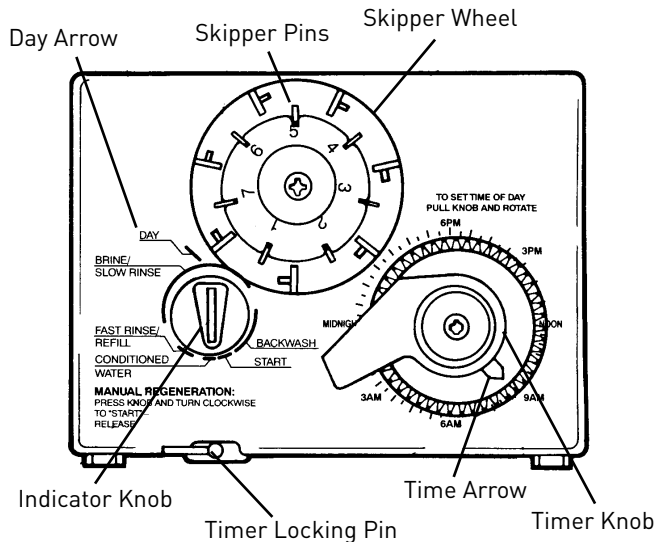
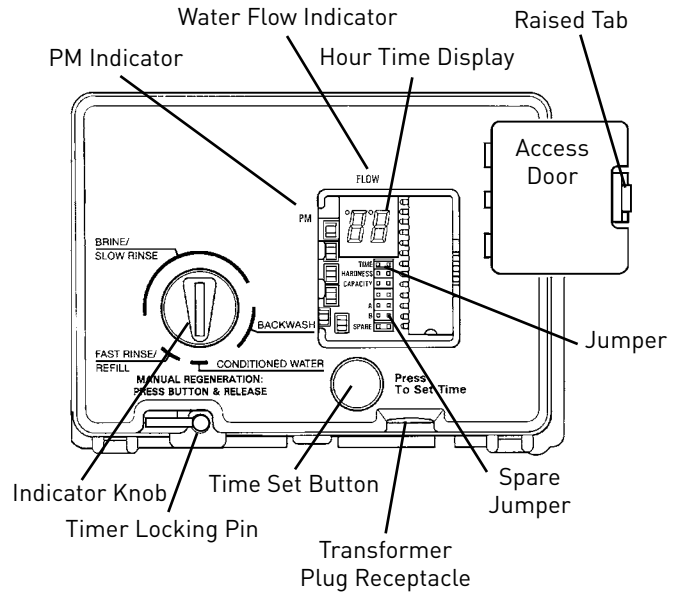

Figure 5
Figure 6
NOTE: The following steps will require turning the indicator knob (Figure 5 and Figure 6) to various positions. Manually rotate the camshaft **COUNTERCLOCKWISE** only until indicator knob points to desired position. See manual regeneration sections for each control's manual operation.
- Set days of regeneration on skipper wheel (Figure 5).
NOTE: The Timer Locking Pin should always be horizontal (Figure 5) during operation.
Open the access door by pushing the raised tab on the door toward the left while pulling the tab out (Figure 6).
NOTE: The Timer Locking Pin should always be horizontal (Figure 6) during operation.
When abnormally high water usage exhausts your water conditioner's capacity ahead of schedule, an extra regeneration can be achieved. Depress the indicator knob on the 440i (Figure 5) with a wide-blade screwdriver and turn **COUNTERCLOCKWISE** to **START** to initiate a regeneration. For the 460i, simply depress the indicator knob (Figure 6). It will take a few minutes for regeneration to start. A normal regeneration will take approximately two hours.
Electricity is used only to run the control and to rotate the camshaft. All other functions are operated by water pressure. Therefore, in the event of a power outage, all the regeneration positions may be dialed manually by depressing the indicator knob and turning **COUNTERCLOCKWISE** (Figure 5 and Figure 6). The following cycle times should be used for proper regeneration: